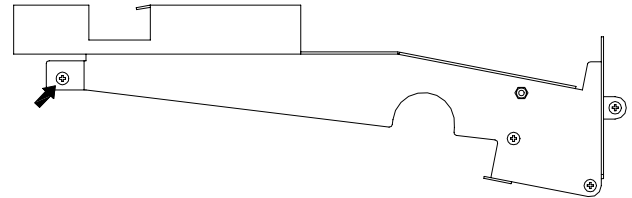

Fig. 8
1. Remove only the subframe screw indicated in Fig. 8 below - this will allow the end to spring sufficiently to allow belt removal under the bracket.
2. Remove the LH lower drive belt (see Fig. 8).